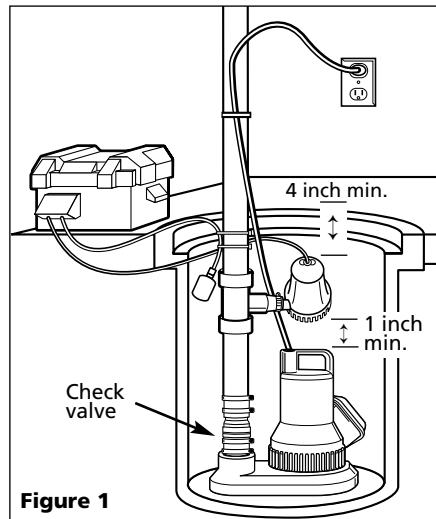

Figure 1
WARNING A check valve must be used on the primary sump pump discharge (see Figure 1)
2. Pump must be installed using 1½" or 1¾" rigid PVC piping. A check valve (not included) **must** be installed between the ESP's tee and the main pump (see Figure 1).
3. Measure and cut discharge pipe so that back-up pump is a minimum of 1 inch above the main pump. This will allow main pump to operate normally (see Figure 1).